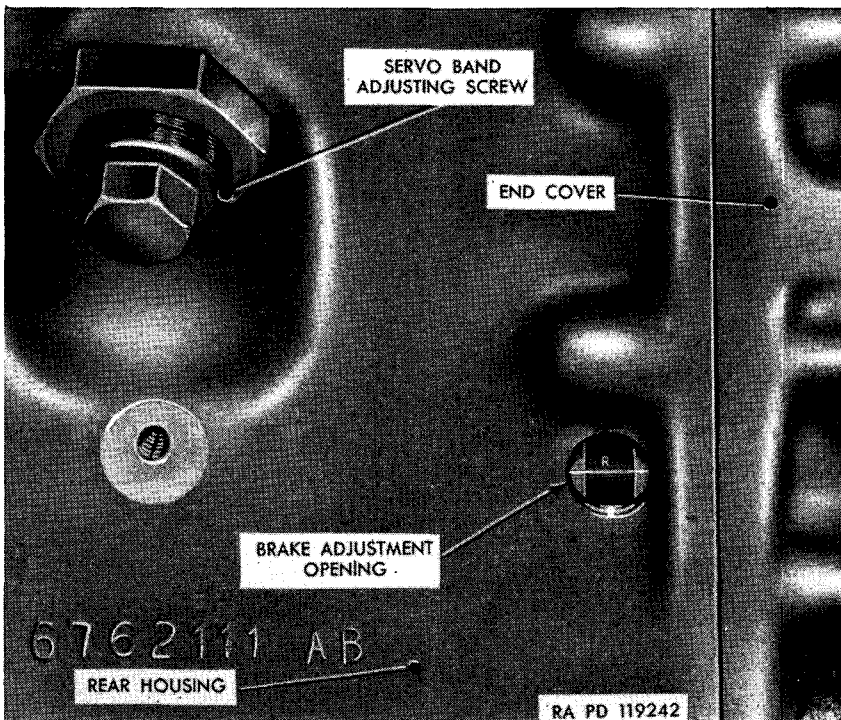

Figure 282. Opening for checking brake adjustment.
- (b) Alternate method of brake adjustment check is to remove the right and left side access doors on the rear of the hull (fig. 285). Remove the brake inspection hole plugs from the transmission rear housing next to the end covers (fig. 282). A circular window machined in the brake anchor
- (2) *Hull rear access doors.* Three access doors are located on the rear of the hull (fig. 285). Each is fitted with a gasket and is secured with three bolts and lock washers. The center access door gives access to the power-take-off and the two outer doors give access to the transmission-reverse-and-low-gear-band-adjusting screws (figs. 227 and 228) and brake adjustment opening plugs (fig. 282).